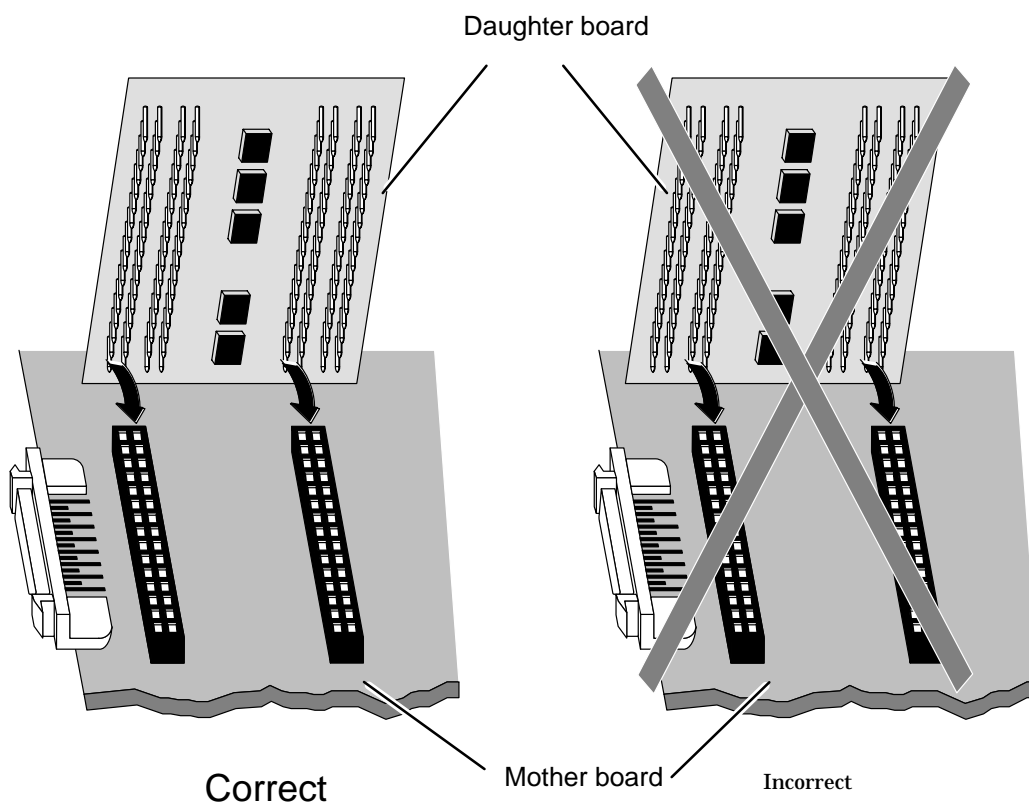

Figure 7 Positioning the Daughter Board for Reattachment
5. Carefully align the pins on the daughter board with the connectors on the mother board, as shown in Figure 7.